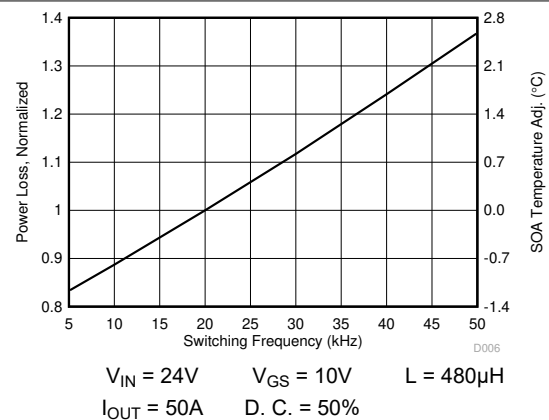

Figure 4-4. Normalized Power Loss vs Switching Frequency
- Normalized power loss for switching frequency $\approx$ 1.24 (Figure 4-4)
- SOA adjustment for switching frequency $\approx$ 1.7°C (Figure 4-4)